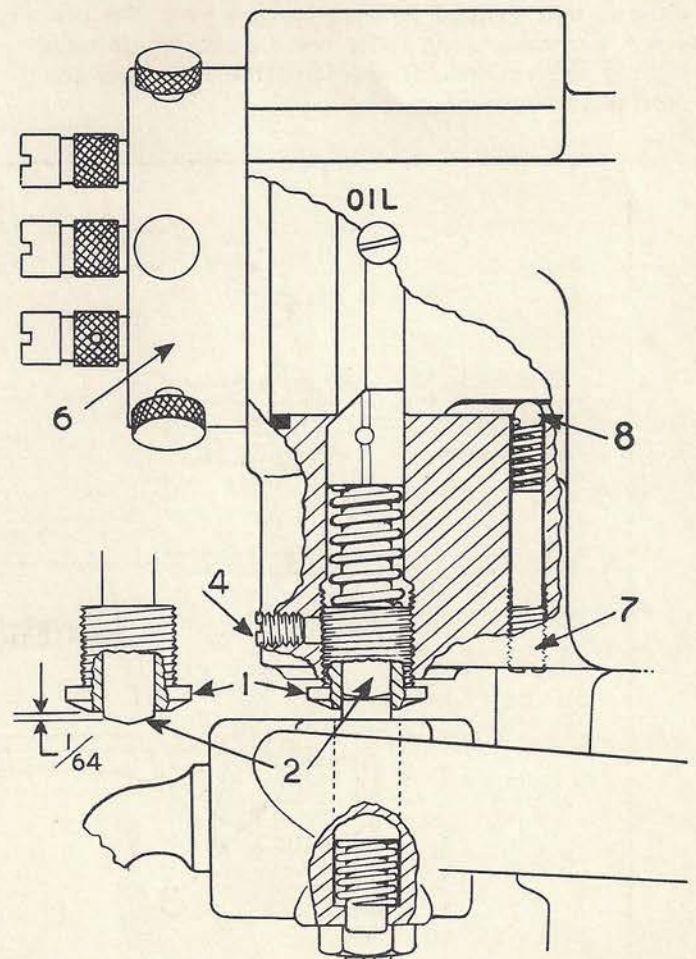

Fig. 37. Longitudinal Stop Roll and Feed Knockoff Adjustment
Longitudinal Feed Stop Roll (6) Fig. 37, is removed by loosening screw (4), unscrewing bushing (1) and withdrawing plunger (2).
(See Fig. 37)